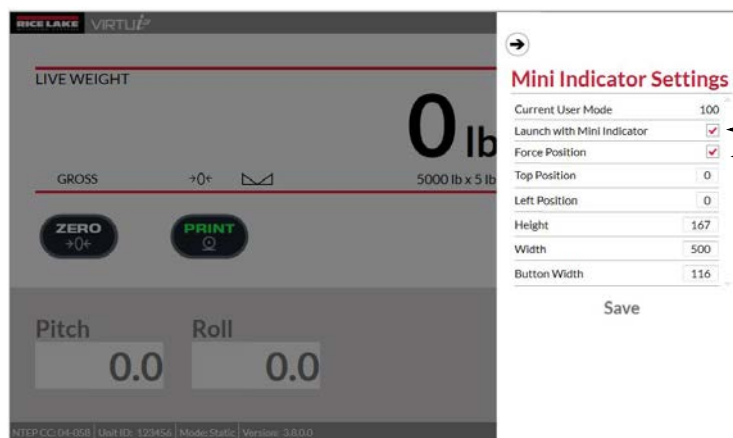

Figure 4-6. Options Menu - Mini-Indicator Settings
To launch the mini indicator enable this setting first by checking the Launch box (Figure 4-6)
Enable the Force Position checkbox (Figure 4-6) to force positional and size constraints for the mini indicator when it is launched. Use the following steps to find the required settings.
4. Enable the Force Position setting in the mini indicator settings options tab (Figure 4-6).